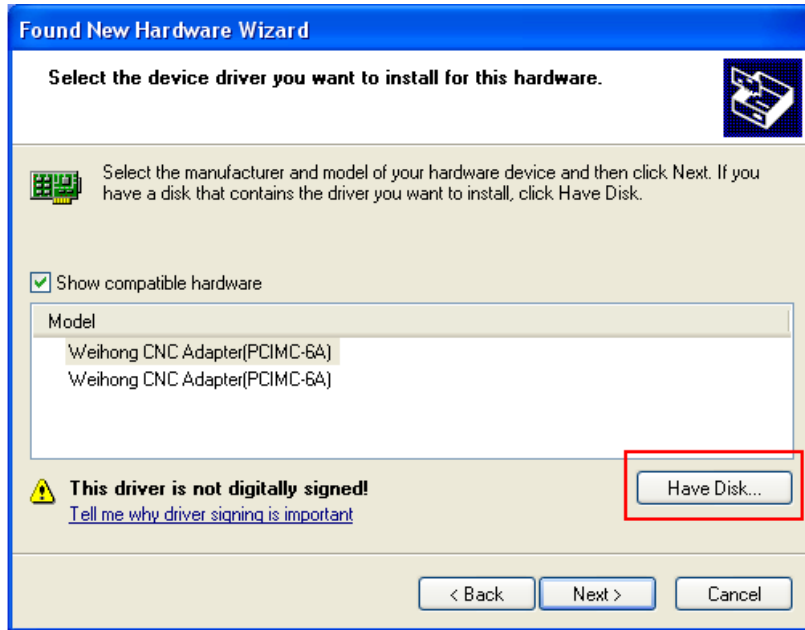

Fig. 2-9 Select the driver manually
- 4) A dialog box containing compatible hardware will pop up, as shown in Fig. 2-9, click [Have Disk...] button to open the next dialog box.